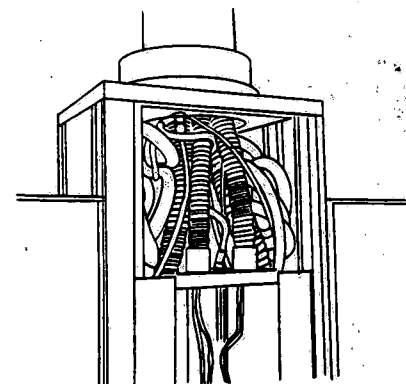

Figure 6-19. Lines Properly Positioned
12. Ensure that all lines are contained within the support head assembly cavity (see Figure 6-19) and that none are crimped or kinked.